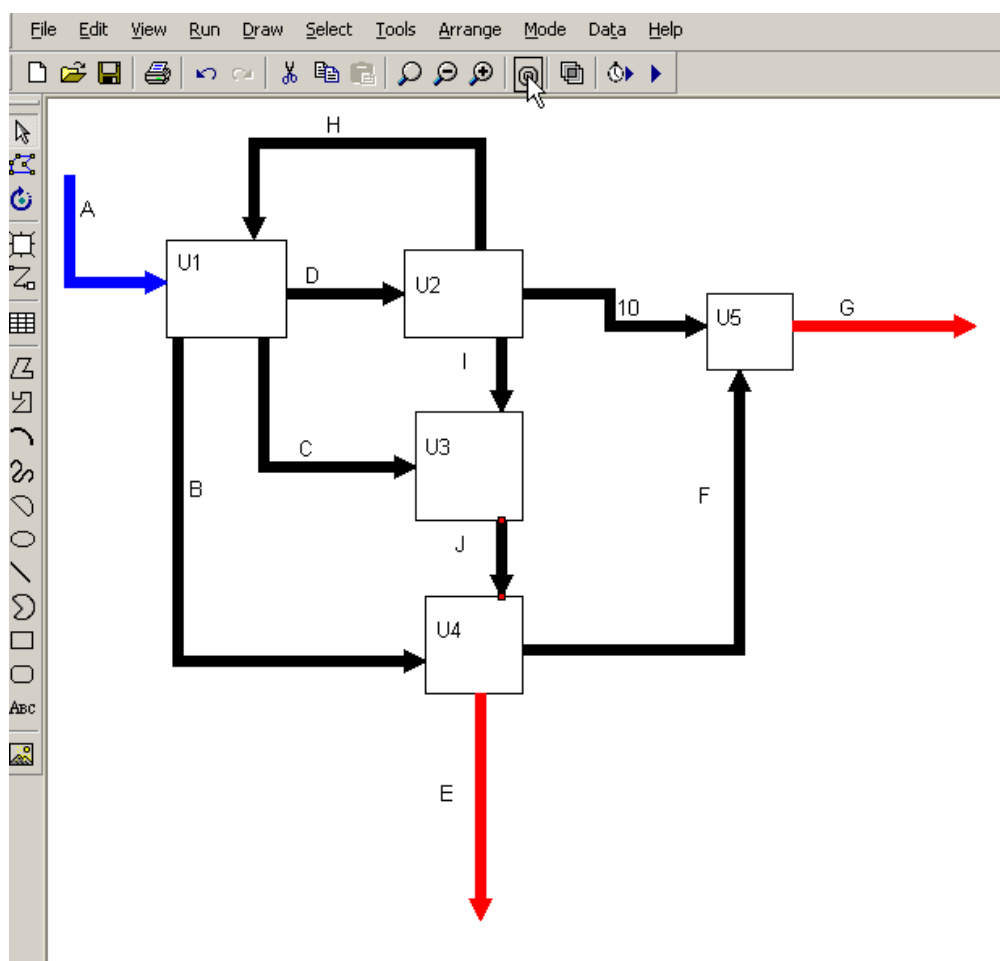

Figure 3. Flowsheet of Example 1.
2. Draw first the units; the example has five units named as U1, U2, U3, U4 and U5 (Figure 3)
3. Draw the streams; the example has eleven streams called as letters from A to J. Be sure that the Source and Destinations are correct (Figure 3)